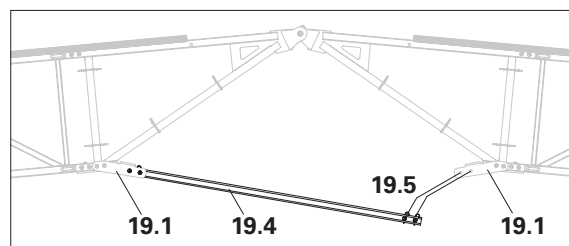

Fig. A4.02a
1. Push the rectangular tube (19.4) on one side between the brackets (19.1) of the ridge bar. (Fig. A4.02a)
2. Insert bolts through the holes and secure with cotter pins – 2x. Repeat steps 1 + 2 on the other side. (Fig. A4.02a)